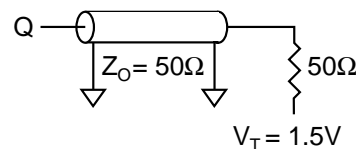

Figure 1
1. Test conditions as specified with the output loading as shown in Figure 1 unless otherwise noted.
Output load	See Figures 1 and 2